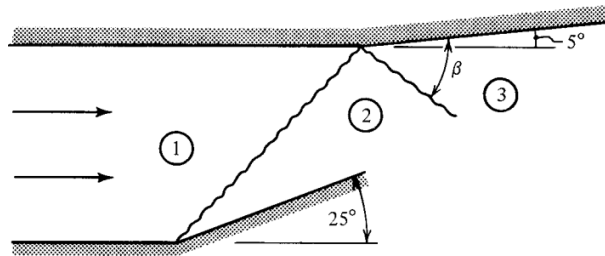

Figure P7.17
- 7.17** A uniform flow of air has a Mach number of 3.3. The bottom of the duct is bent upward at a 25° angle. At the point where the shock intersects the upper wall, the boundary is bent 5° upward as shown in Figure P7.17. Assume that the flow is supersonic throughout the system. Compute M_3 , p_3/p_1 , T_3/T_1 , and β .